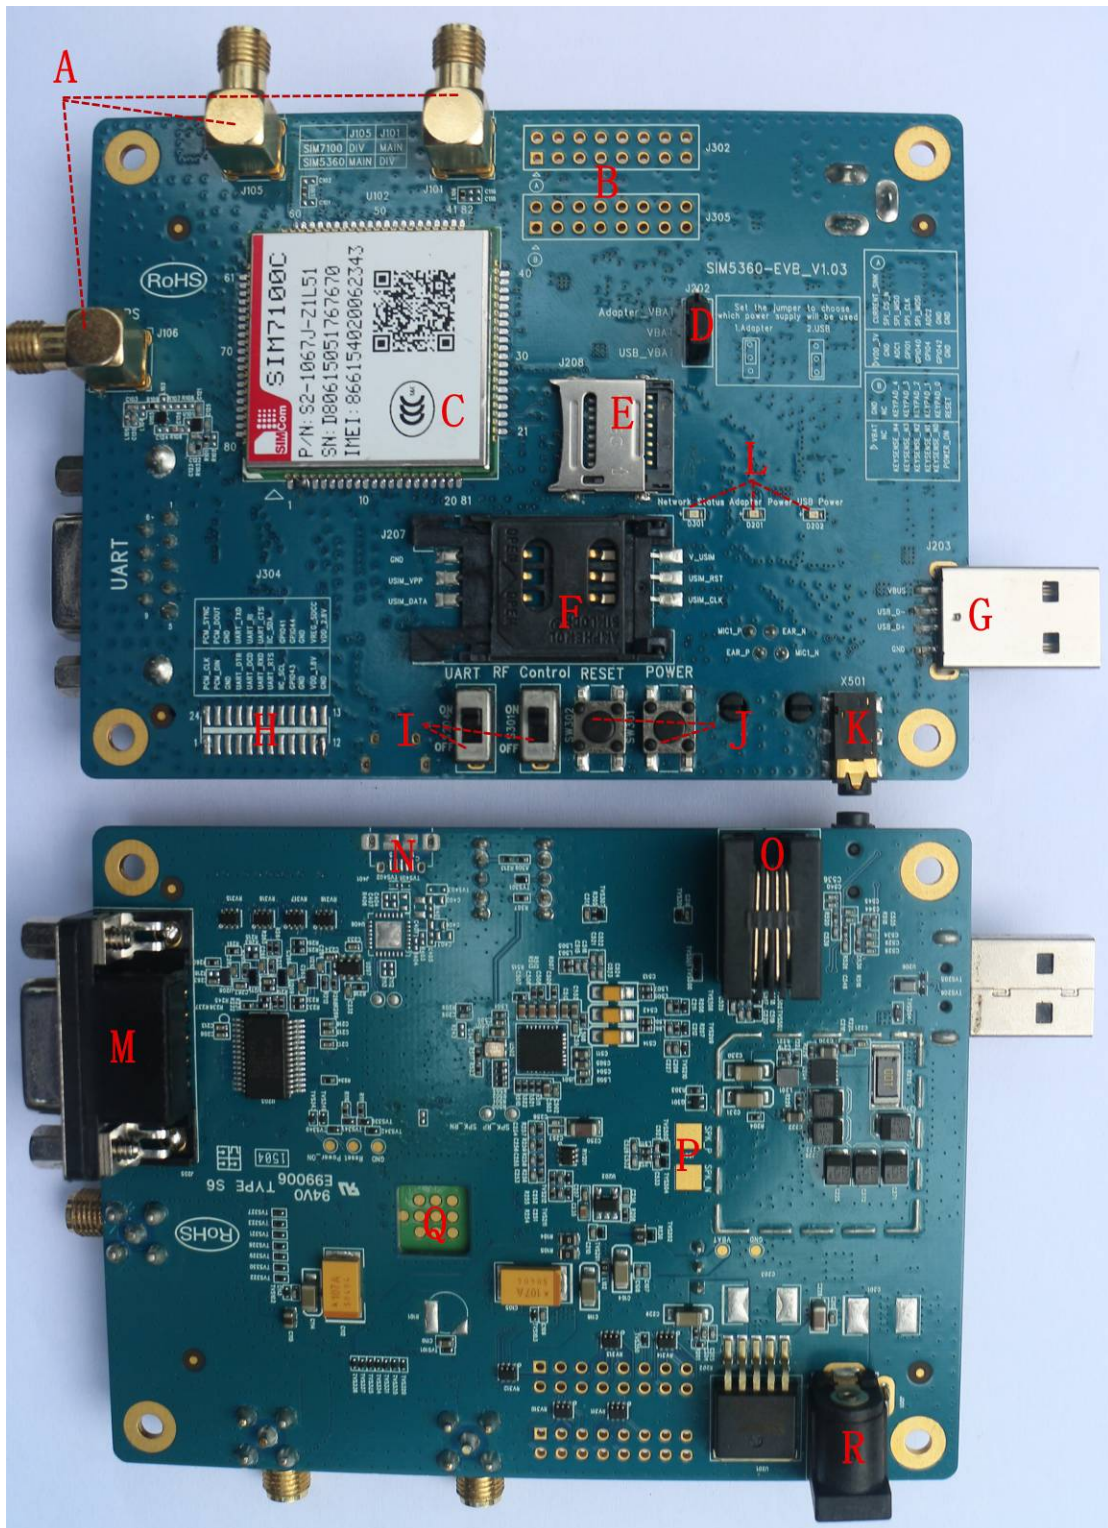

Figure 1: EVB View
| FIGURE 1: EVB VIEW..... | 7 |
1) Please refer Figure 1. The Pin 1 and Pin 2 of J501 are the SPK_M and SPK_P.